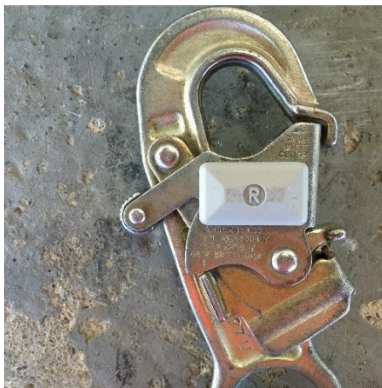
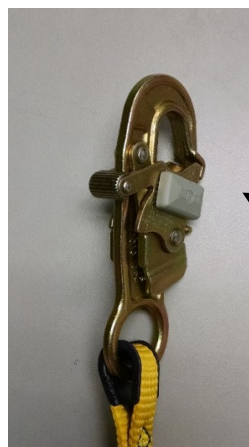

Figure 11
Figure 13
- Attach the lanyard magnets to the lanyard clip as shown in figures 11 and 12. The right magnet “R” mounts to the right side of the clip. The left magnet “L” mounts to the left side of the clip. For reference to right or left side of clip, hold the clip such that the opening of the clip is farthest away from you. Then when looking at the clip, its right side will be to your right and left side to your left illustrated in figure 13.